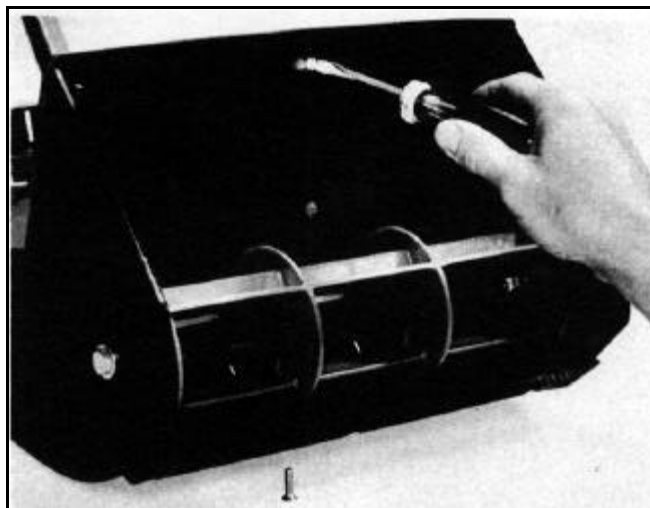

Figure 188
3. Remove the three Phillips screws which attach the upper and lower shrouds in the impeller housing area (Figure 188).